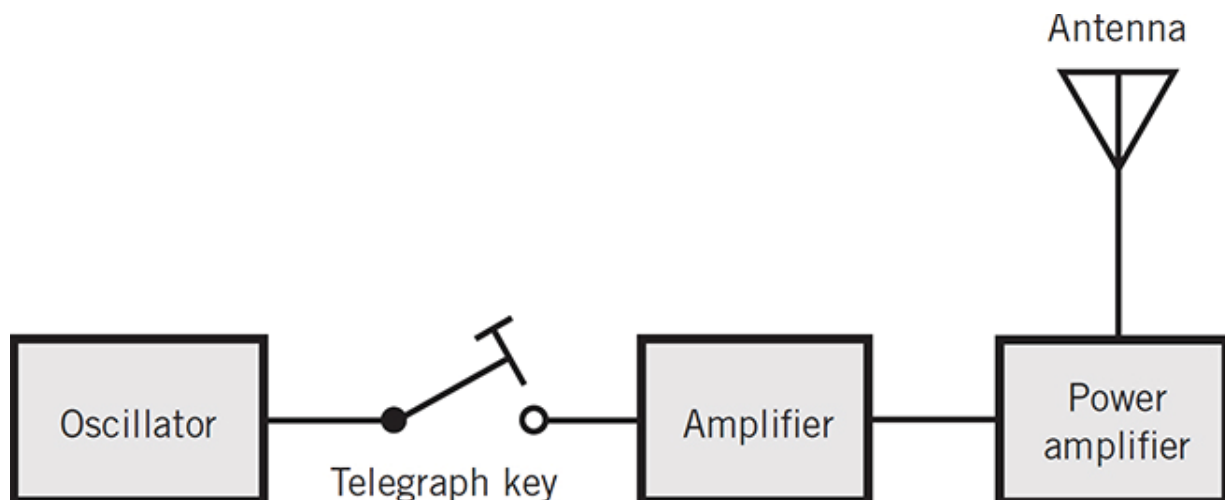

FIG. 1-1 *Block diagram of a radio transmitter that can send signals in Morse code.*
- A *block diagram* gives you an overview of how the individual circuits in a system work together. You'll see each circuit represented as a "block" (rectangle or other shape, depending on the application). Interconnecting lines, sometimes with arrows on one or both ends, show how the circuits combine to form the whole system, and how currents and signals flow among those circuits. Figure 1-1 is a simple example.